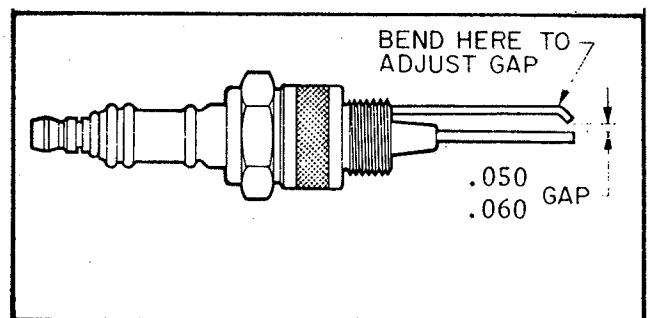

Figure 4. Spark Plug Gap Setting
2. Remove the spark plug from the burner head, and check the gap between the electrodes. The gap must be within the limits shown in Figure 4.
3. Adjust the gap by bending the outside electrode where shown in Figure 4. If you do not install the plug immediately, protect it from damage until it is reinstalled.